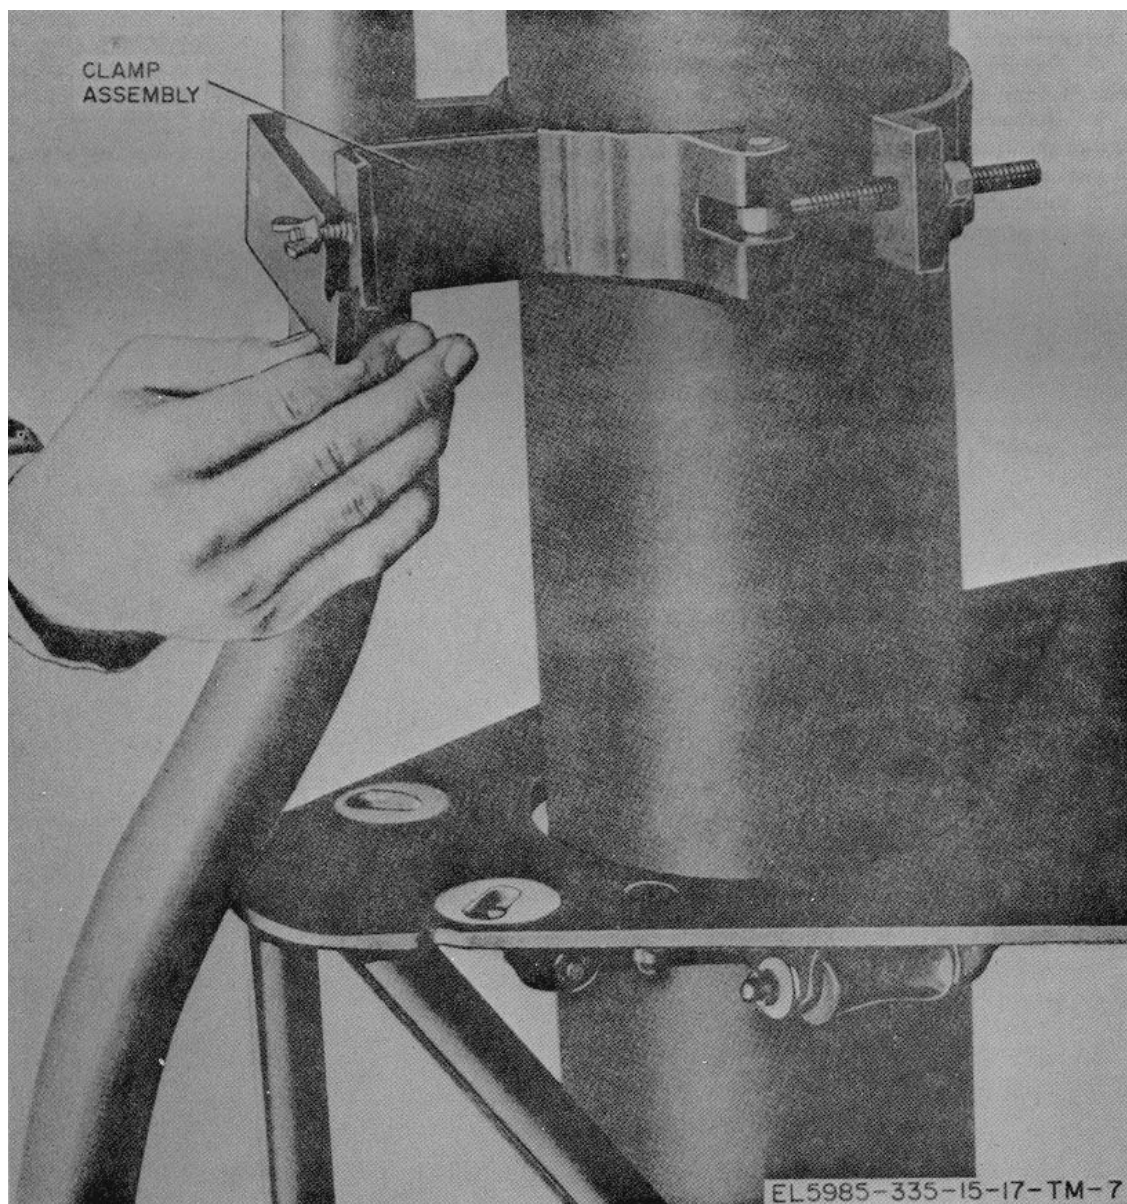

Figure 2-10. Attaching waveguide clamp.
- l. Attach waveguide clamps (fig. 2-10) and additional waveguide sections as the mast is being raised.
- k. Attach waveguide clamps (fig. 2-10) and additional waveguide sections as the mast is being raised.